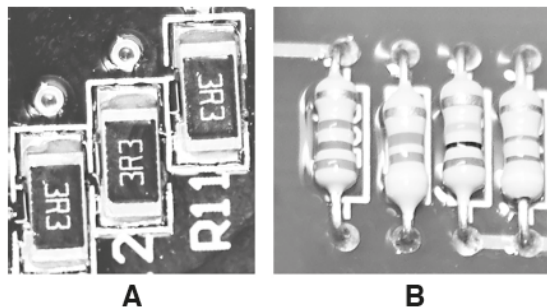

Fig. 8
- (c) Fig. 8 shows two methods for commercial circuit construction of a circuit board.